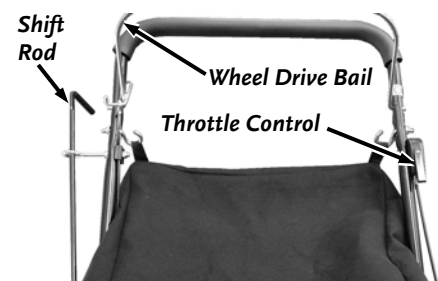

Figure 21
3. Move the throttle control to “FULL SPEED” (rabbit) position (**Figure 21**).
1. Make sure the Shift Rod is in the N (Neutral) position (**Figure 21**).
3. Move throttle control to “FULL SPEED” (rabbit) position (**Figure 21**).
7. Slowly move the Throttle Control Lever to the “IDLE” position (**Figure 21**).
1. Slowly move the Throttle Control Lever to the “IDLE” position (**Figure 21**).
There are three controls, the Shift Rod, Throttle Control, and the Wheel Drive Bail, that are used to engage and disengage the powered wheels (**Figure 21**). Familiarize yourself with these controls before you start the engine.